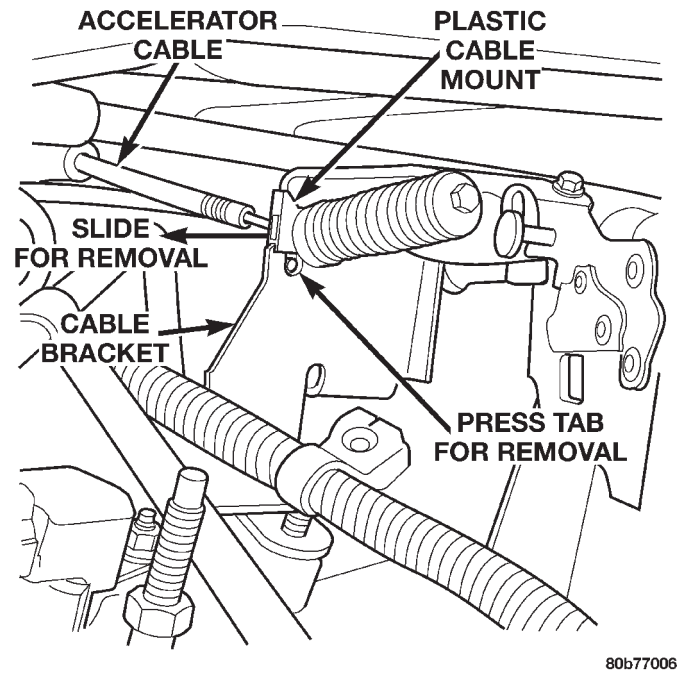

Fig. 6 Accelerator Cable Release Tab—4.7L V-8 Engine
- (5) Press tab (Fig. 6) to release plastic cable mount from bracket. **Press on tab only enough to release cable from bracket. If tab is pressed too much, it will be broken.** Slide plastic mount (Fig. 6) towards passenger side of vehicle to remove cable from bracket.
- (1) Install end of cable to speed control servo. Refer to Speed Control Servo Removal/Installation.
- (2) Slide speed control cable plastic mount into bracket.
- (3) Install speed control cable connector onto throttle body bellcrank pin (snaps on).
- (4) Slide accelerator cable plastic mount into bracket. Continue sliding until tab (Fig. 6) is aligned to hole in mounting bracket.